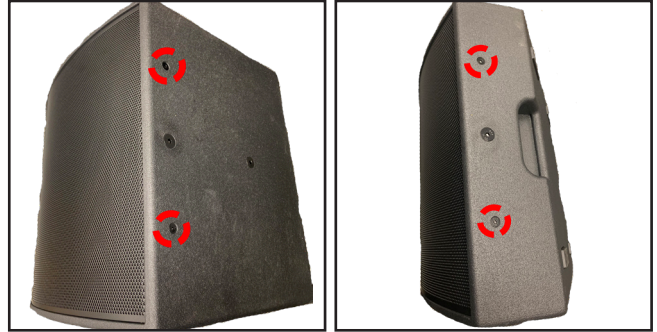

Figure 3. Grille Screws Removal
1.1 On the Enclosure of the unit, remove the 4 M6 screws securing the Grille as indicated in Figure 3.